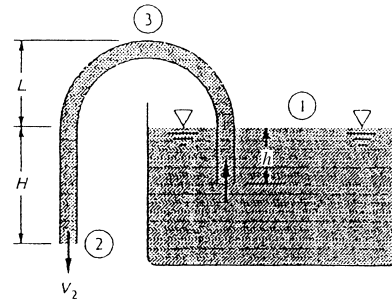

Fig. P3.169
3.169 Once it has been started by sufficient suction, the *siphon* in Fig. P3.169 will run continuously as long as reservoir fluid is available. Using Bernoulli's equation with no losses, show (a) that the exit velocity V_2 depends only upon gravity and the distance H and (b) that the lowest (vacuum) pressure occurs at point 3 and depends on the distance $L + H$.